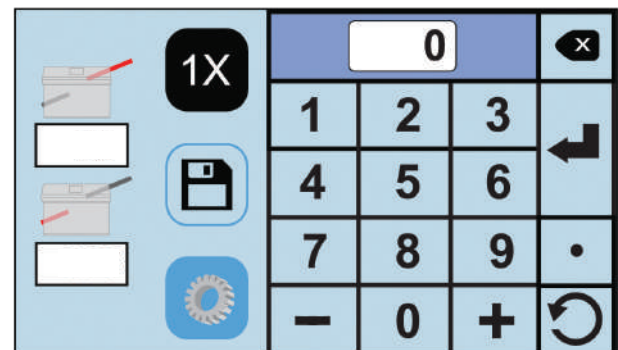

Fig. 41
2. Select the upper fold table icon  to adjust the fold stop position for the first fold (the icon will turn a dark gray when selected). Using the touch pad, key in the number or use the "+" and "-" keys to make the adjustment for the first fold stop position (Fig. 41). Press the enter key "↵" to enter the measurement. The white box under the icon will show the measurement entered. Select the bottom fold plate icon  to adjust the second fold and repeat the same steps to adjust.
4. To exit, press the Service Mode Home Icon  at any time (Fig. 41)